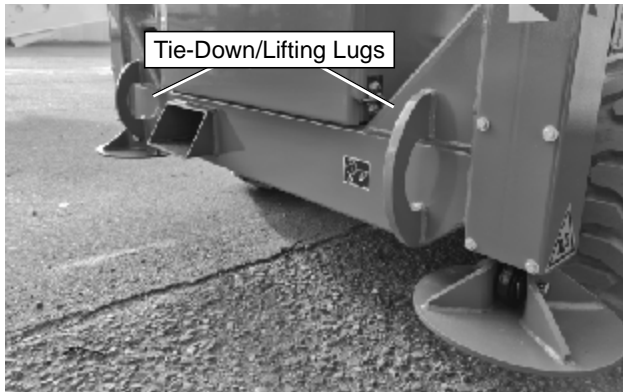

Figure 9.3 – Lifting Lug Points
2. Inspect the front lifting lugs and the rear lifting lugs to make sure they are free of cracks and are in good condition. There are two lugs on the rear of the chassis and two on the front (see figure 9.3). Have any damage repaired by a qualified service technician before attempting to hoist the machine.